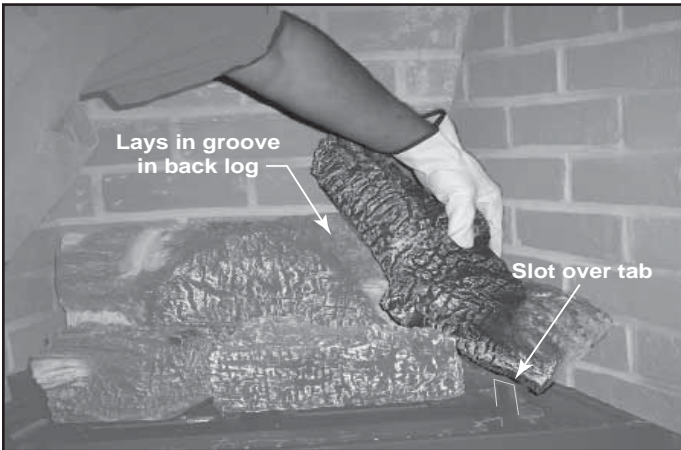

Figure 15.10 Position Leg #4061-174
- Place this log in the right-hand groove in the back log and the tab as shown. See Figure 15.10.